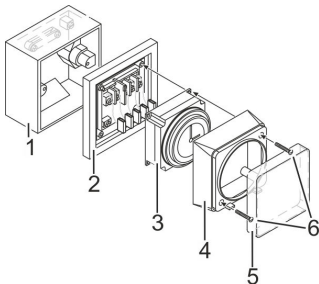

Fig. 2: Installation on a mounting socket (Fig. 2/1)
1. Remove the plastic cover (Fig. 2/5).
2. Undo the screws (Fig. 2/6) on the housing cover (Fig. 2/4) using a flat-head screwdriver.
Remove the housing cover (Fig. 2/4) and the dial together with the connected housing base (Fig. 2/3).
4. Install the housing base (Fig. 2/2) on the mounting socket (Fig. 2/1).
14. Screw the dial (Fig. 2/3) and housing cover (Fig. 2/4) onto the housing base (Fig. 2/2) using a flat-head screwdriver.
15. Replace the plastic cover (Fig. 2/5).